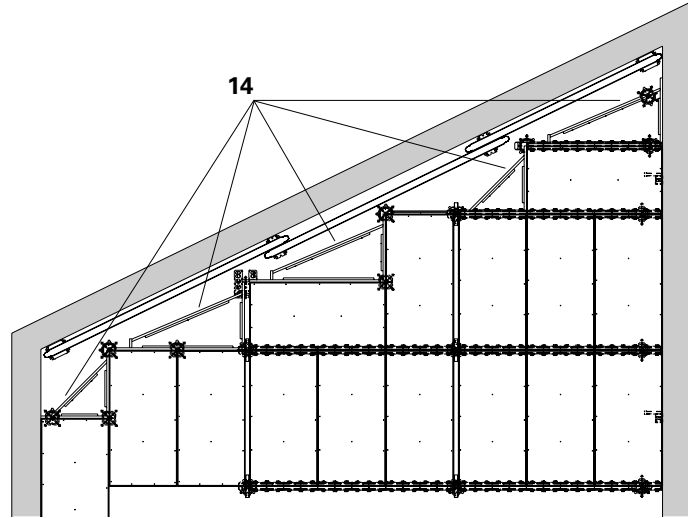

Fig. A5.20
3. Lay Triangular Frame (14) on the support (Main Beam, Prophead or Combi-head, End Support). (Fig. A5.20)